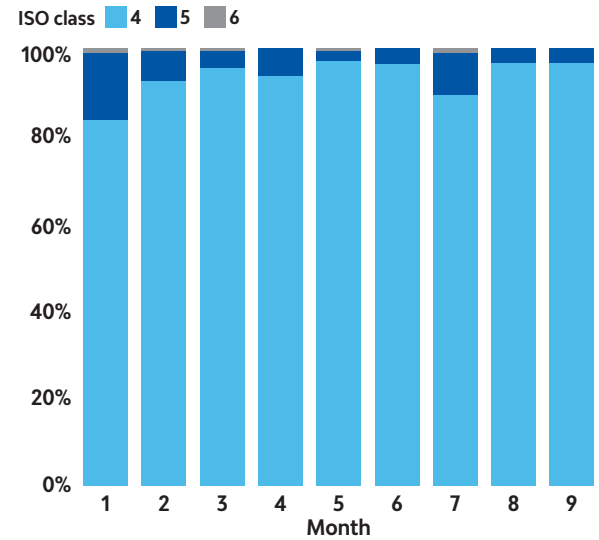

Figure 1.
**Figure 1.** shows that the background environment from the Evatec lab tracked over a series of several months. The overall performance is ISO 4 standards for most of the time.